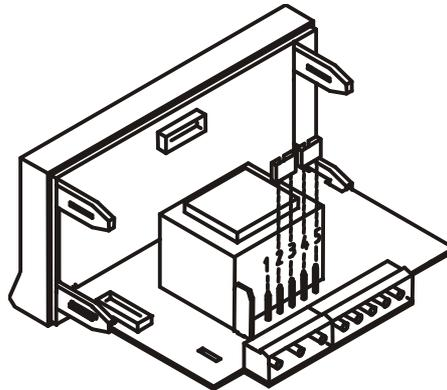

Fig. 9.2. Power jumper position for 230V or 48V AC
**115/ 230V AC** : The instruments that are to be powered with 115/230V AC are set up at fabrication for **230V** operation, see figure 9.2. To change to 115V, plug in power jumpers indicated in table 1 as shown in figure 9.3.